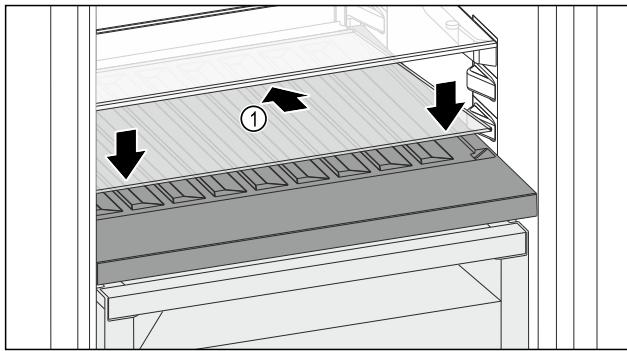

Fig. 117
- ▶ Place the glass shelf Fig. 117 (1) at an angle, sloping it downwards and backwards.
- ▶ Lower the glass shelf Fig. 117 (1) at the front.